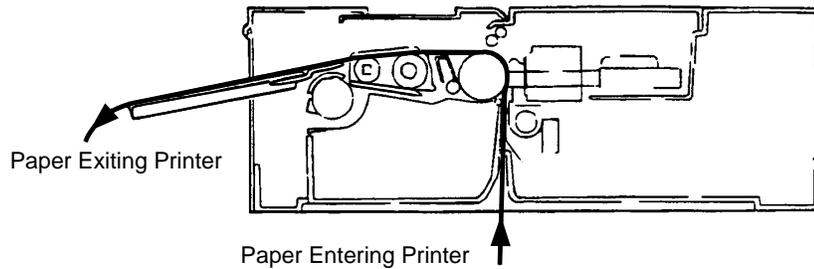

Figure 8-2. Paper Path for Bottom Feed, Rear Exit
4. Feed the paper up through the slot in the bottom of the ROP. See Figure 8-2.